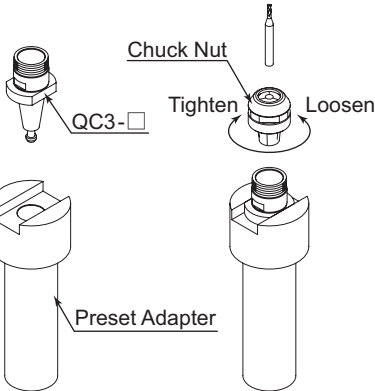

Fig. 8
- ① Affix the preset adapter to the tool holder ( $\phi 20\text{mm}$ ) etc.
- ② Align the collet holder to the drive dog notch of the preset adapter, and insert the collet holder. (Fig. 8)